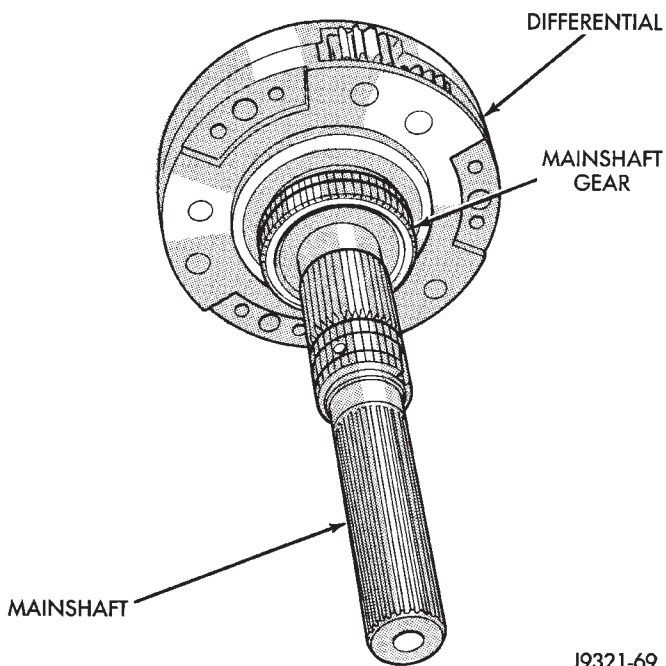

Fig. 75 Installing Mainshaft In Differential
(13) Install mainshaft in differential (Fig. 75). Rotate shaft to verify that bearings were not displaced during assembly. Also be sure that shaft is fully seated in differential.